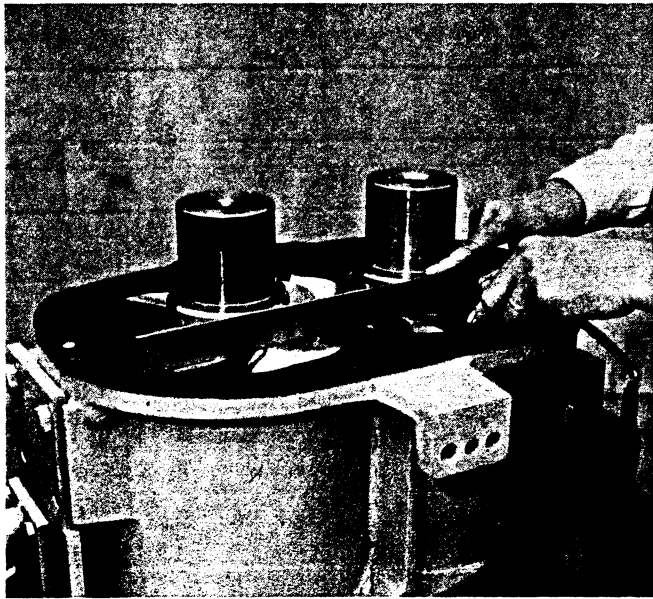

Figure 24
10. Lay a straight edge across the rotor housing flange with the gasket in place and measure the total rotor to rotor housing end clearance with feeler gauges. Do this for each rotor separately. Refer to Figure 24. It should be 0.018 to 0.024 inch. Note these readings as shown in the example calculation on Table I.